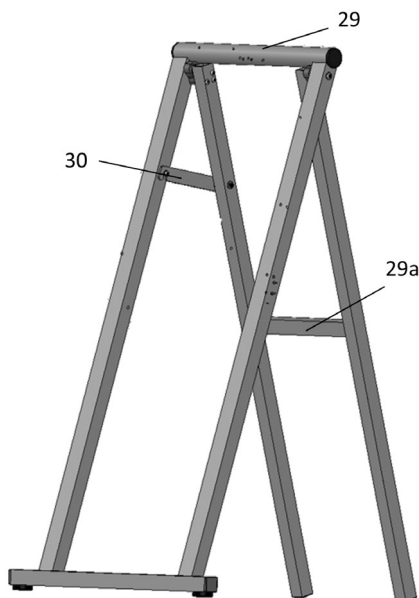
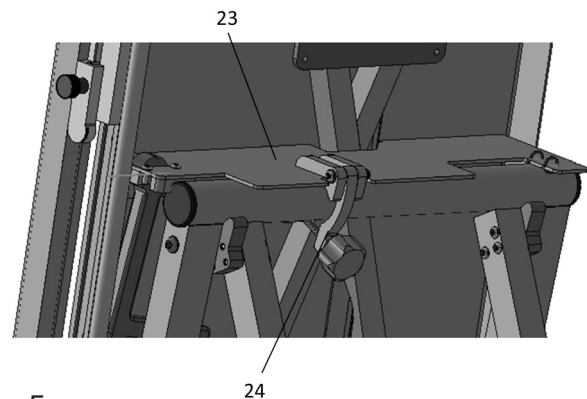

Fig. 4
Fig. 5
Open the fastening clamp for the base (Pos. 24, Fig. 3) and separate this from the device. Set up the base as shown in Fig. 4 and lock the safety latch (30).
Lift the ProCut top by the carrying handle (Pos. 27, fig. 3) and the base plate (Pos. 1, Fig. 1) and centre it with the mount for the base (Pos. 23, Abb. 5) on the support for the ProCut top (Pos. 29, Fig. 4).
The transformer with cable reel (Pos. 26, Fig. 2) then leans against the support for the transformer with cable reel (Pos. 29a, Fig. 4). Then fasten the device on the support using the fastening clamp for the base (Pos. 24, Fig. 5). The is used in freestanding state in this position.
Open the safety latch (Pos. 30, Fig. 4) on the base/the freestanding support (Fig. 4) and fold in the base.
The ProCut top can be suspended on the backrest of the scaffolding using the mount for the base/freestanding support (Pos. 23, Fig. 5).
Always secure the device with the fastening clamp for the base/freestanding support (Pos. 24, Fig. 5)!